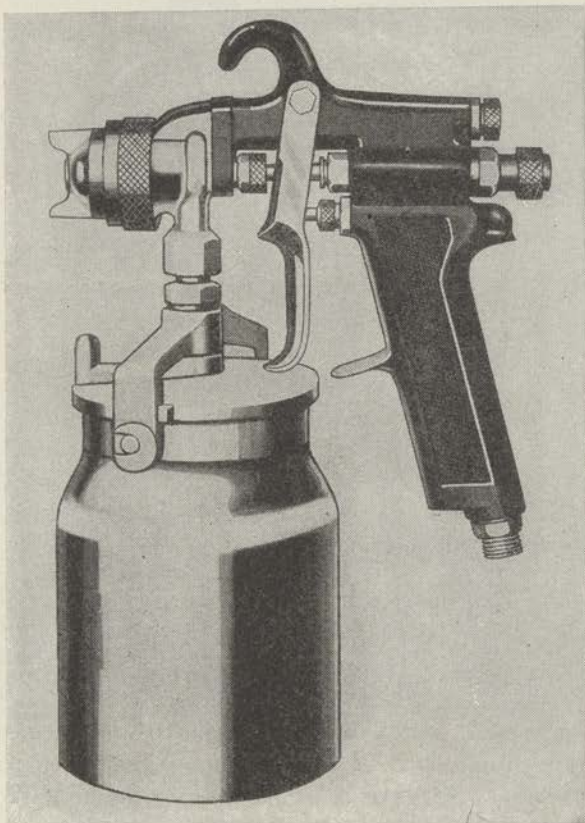
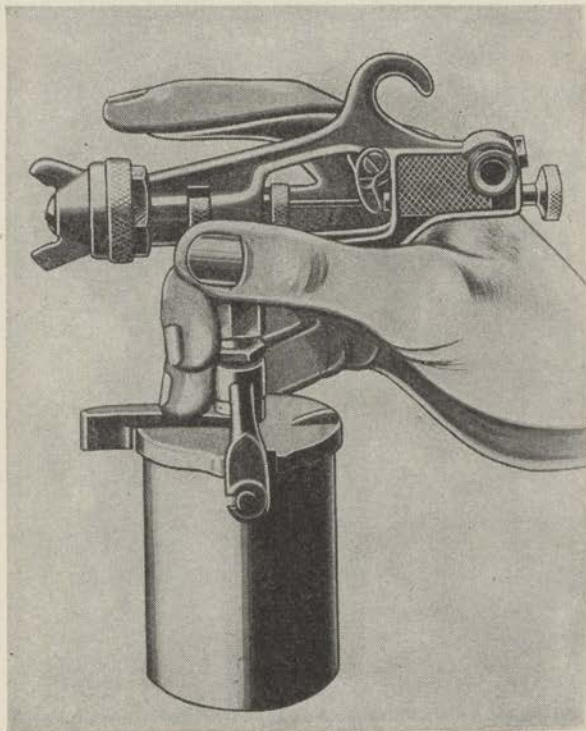

FIGURE 116.—Spray gun for body painting.
FIGURE 117.—Spray gun for stenciling.
used for that purpose. Figure 116 shows the type of spray gun used for body painting and figure 117 shows the type used for stenciling.
b. Painting stenciled characters.—Spray blue-drab enamel, as it comes from the can, with a touch-up gun (fig. 117). Using as little air pressure as will properly spread the paint, apply a solid, heavy coat. When it has dried for 10 minutes, pull off the stencils. The special adhesive used ordinarily leaves no marks.